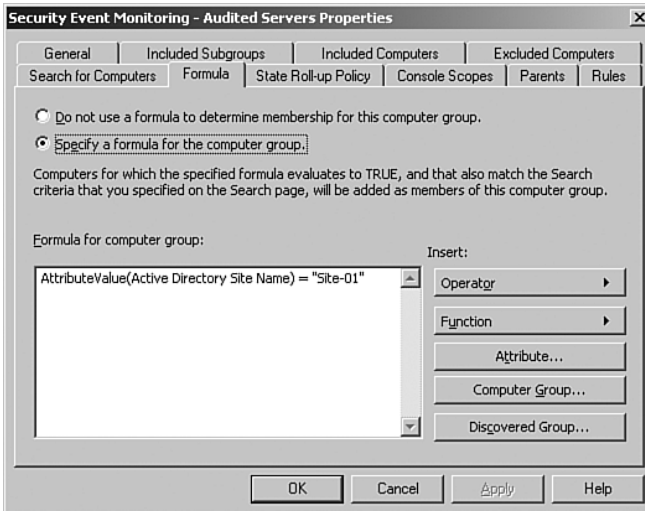

FIGURE 20.12 Active Directory Site formula.
4. Select the Operator button and select the "=" sign; then following the equal sign type the name of the Active Directory site you want to include in your search. You should place the site name in quotes. Your formula should look similar to Figure 20.12. Click OK to complete the configuration.